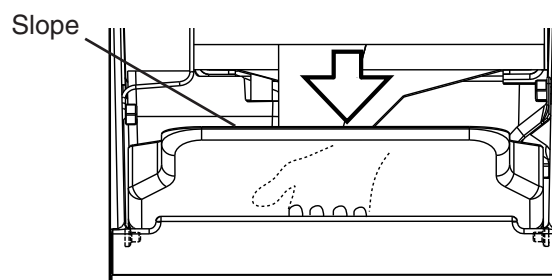

Fig. 47
17. Replace the slope in its correct position. See Fig. 47.